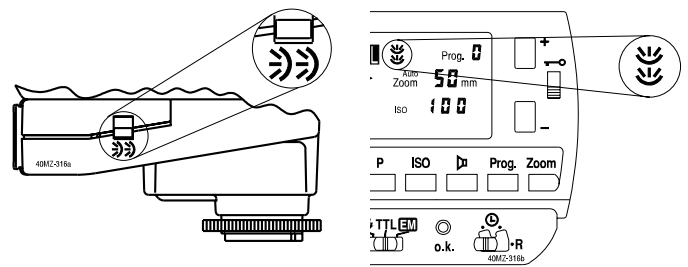

Fig. 16: Switching on the secondary reflector - Display
Symbols on the LC display ③ indicate that the secondary reflector ⑦ is on (Fig. 16). If these symbols flash, you are advised that the main reflector is not tilted and that use of the secondary reflector is not expedient.